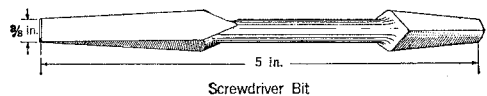

Fig. 8
4.01 The screwdriver bit, illustrated in Fig. 8, is provided for use where a considerable number of the larger screws are to be placed or removed and a brace is available.